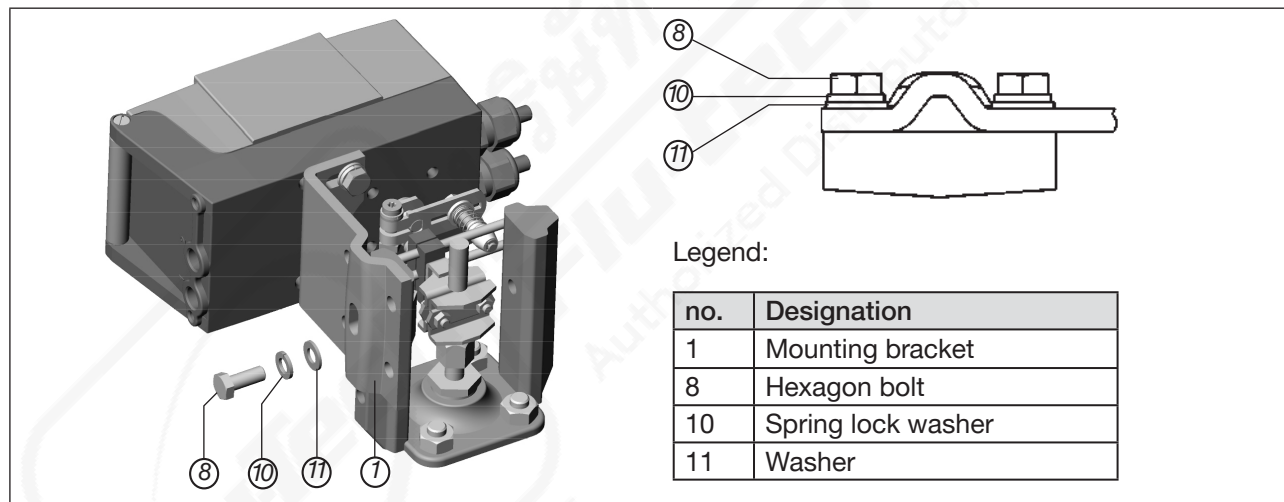

Figure 20: Attaching the positioner with the mounting bracket; for actuators with a cast frame
→ Attach the mounting bracket to the cast frame using one or more hexagon bolts (8), the washers (11) and the spring lock washers (10) (see "Figure 20").